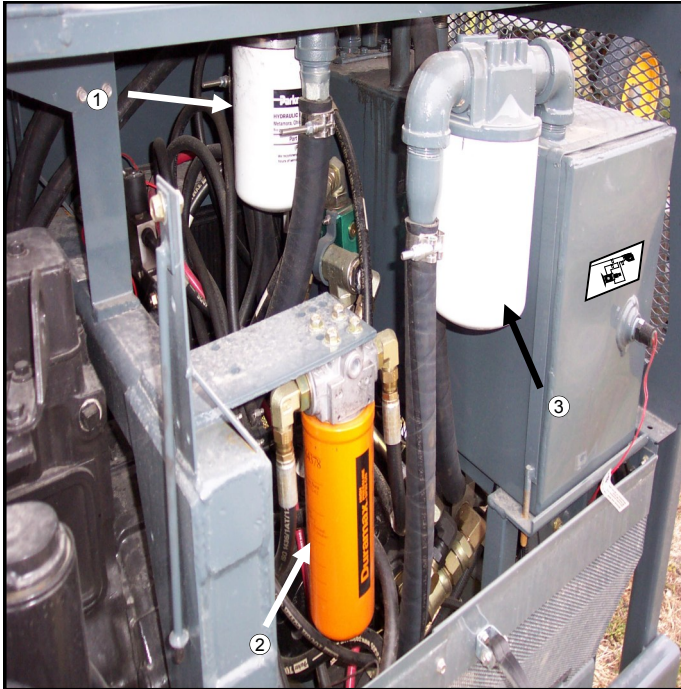

FIG 7.20
Remove and install a new 10 Micron rated suction filter (fig. 7.20. item 3) at the end of the first 50 hours of use; subsequently, replace the filter every 250 hours, or once a year, whichever comes first.
Remove and install a new 4 Micron rated charge pressure filter (fig. 7.20, item 2) at the end of the first 50 hours of use; subsequently, replace the filter every 250 hours, or once a year, whichever comes first.
Remove and install a new 25 Micron rated return filter (fig. 7.20, item 1) at the end of the first 50 hours of use; subsequently, replace the filter every 250 hours, or once a year, whichever comes first.